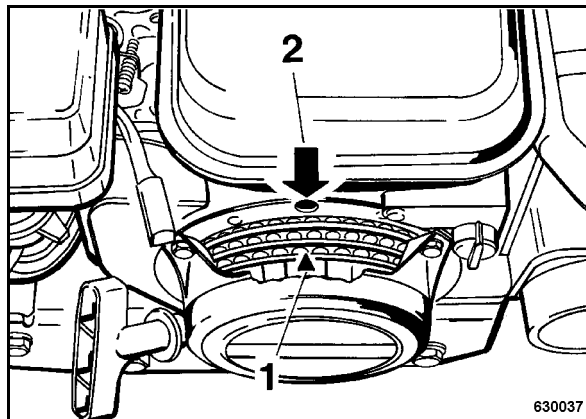

Fig. 48
- For this purpose align triangle mark (1) (Fig. 48) on the starter disc to the top bore (2).